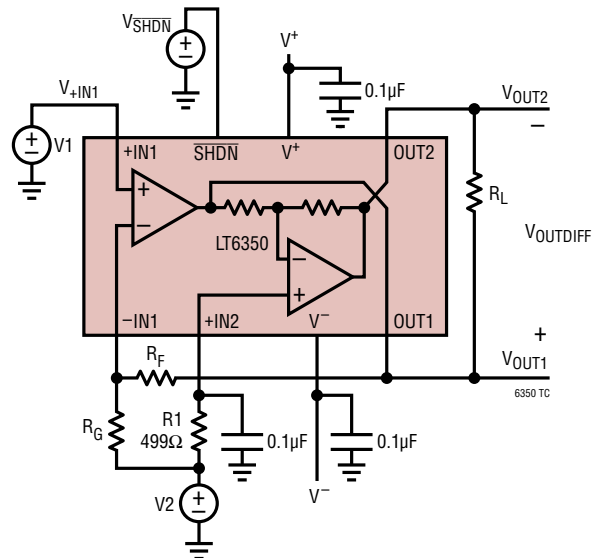

Figure 1. DC Test Circuit.
**Note 6:**  $V_{\text{OS2}}$  is measured as the total output common mode voltage offset (error between output common mode and voltage at V2).  $V_{\text{OS2}}$  includes the combined effects of op amp 2's voltage offset,  $I_B$ ,  $I_{\text{OS}}$  and mismatch between on-chip resistors and the  $499\Omega$  external resistor, R1 (See Figure 1).
$T_A = 25^\circ\text{C}$ ,  $V^+ = 5\text{V}$ ,  $V^- = 0\text{V}$ ,  $V_{+IN1} = V_2 = \text{Mid-Supply}$ ,  $V_{SHDN} = V^+$ ,  $R_F = \text{SHORT}$ ,  $R_G = \text{OPEN}$ ,  $R_L = \text{OPEN}$ . See Figure 1.
$T_A = 25^\circ\text{C}$ ,  $V^+ = 5\text{V}$ ,  $V^- = 0\text{V}$ ,  $V_{+IN1} = V_2 = \text{Mid-Supply}$ ,  $V_{\text{SHDN}} = V^+$ ,  $R_F = \text{SHORT}$ ,  $R_G = \text{OPEN}$ ,  $R_L = \text{OPEN}$ . See Figure 1.